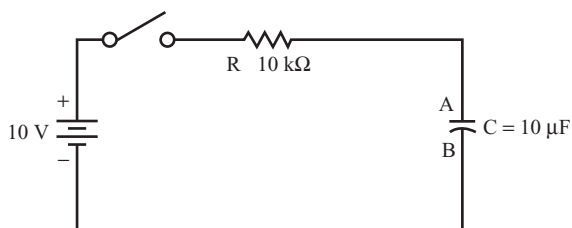

FIGURE 1.15
The capacitor shown in Figure 1.15 charges when the switch is closed.
- B.** What is the time constant for the circuit shown in Figure 1.15? \_\_\_\_\_
- A.** What is the voltage on plate A and plate B of the capacitor in Figure 1.15 before the switch is closed? \_\_\_\_\_